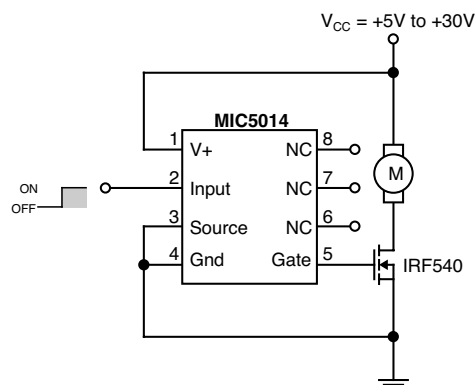

### Figure 5. High Side Driver with Delayed Overcurrent Shutdown
**High Side Driver With Delayed Current Sense** (Figure 5)
Delay of the overcurrent detection to accommodate high inrush loads such as incandescent or halogen lamps can be accomplished by adding an LM3905 timer as a one shot to provide an open collector pulldown for the comparator output such that the control input of the MIC5015 stays low for a preset amount of time without interference from the current sense circuitry. Note that an MIC5015 must be used in this application (figure 5), as an inverting control input is necessary. The delay time is set by the RC time constant of the external components on pins 3 and 4 of the timer; in this case, 6ms was chosen.
If overcurrent sense is to be used, first measure the duration of the inrush, then use the topology of Figure 5 with the RC of the timer chosen to accommodate the duration with suitable guardbanding.